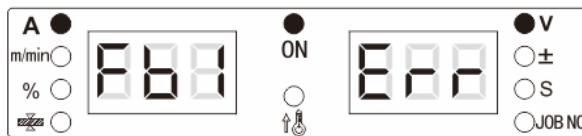

Fig.4-18 Error Query Display Interface
- Enter into internal function, and adjust the left panel knob to FB1 (shown in figure 4-18).